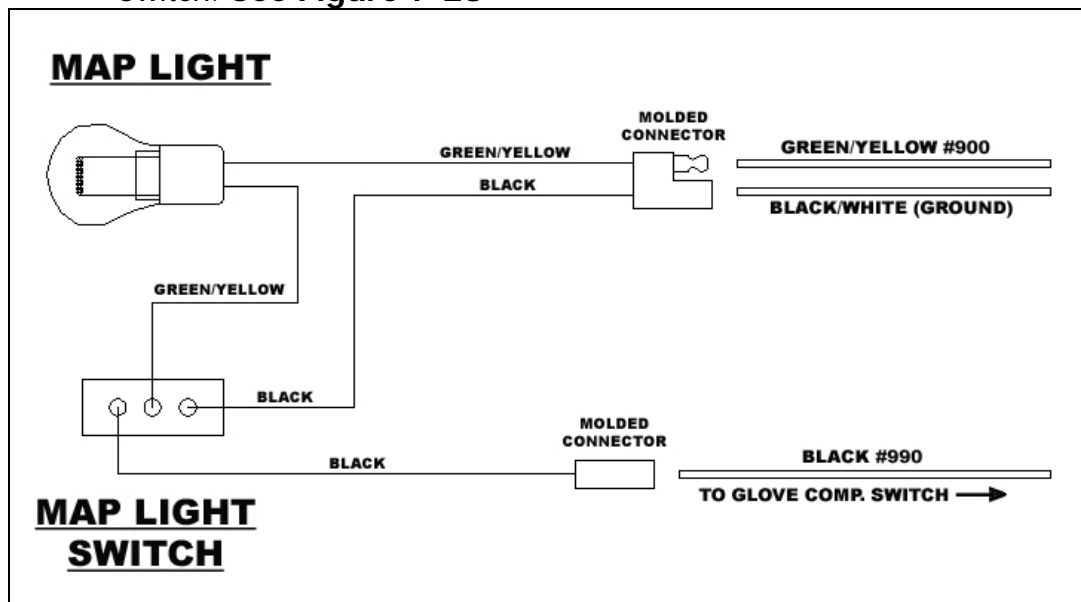

Figure 7-28 Map Light Wiring
- 7.17.3 Connect wires *Map Light B+* #900 (GRN/YLW) and *Map Light Switch Ground* (BLK/WHT) to the molded connector coming from the Map light. Connect the *Glove Box Light Switch* #990 (BLK) to the lead coming from the Map Light Switch. See **Figure 7-28**